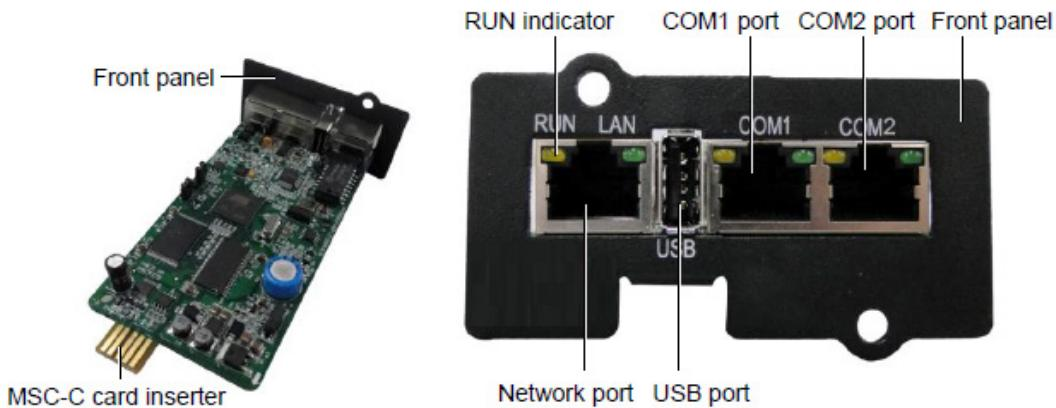

Figure 2-31 Appearance of the MSC intelligent monitoring card
Figure 2-31 shows the real-time image of the MSC monitoring card.
- The jumpers need to be set to the correct position. The jumper locations are shown in Figure 2-31.